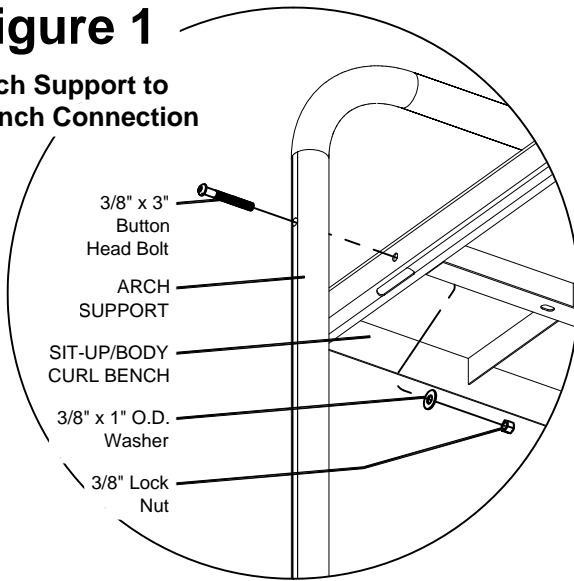

Figure 2
Attach the Flat Bench Foot (2) to the Sit-Up/Body Curl Bench. Refer to Figure 2 for hardware type and orientation.